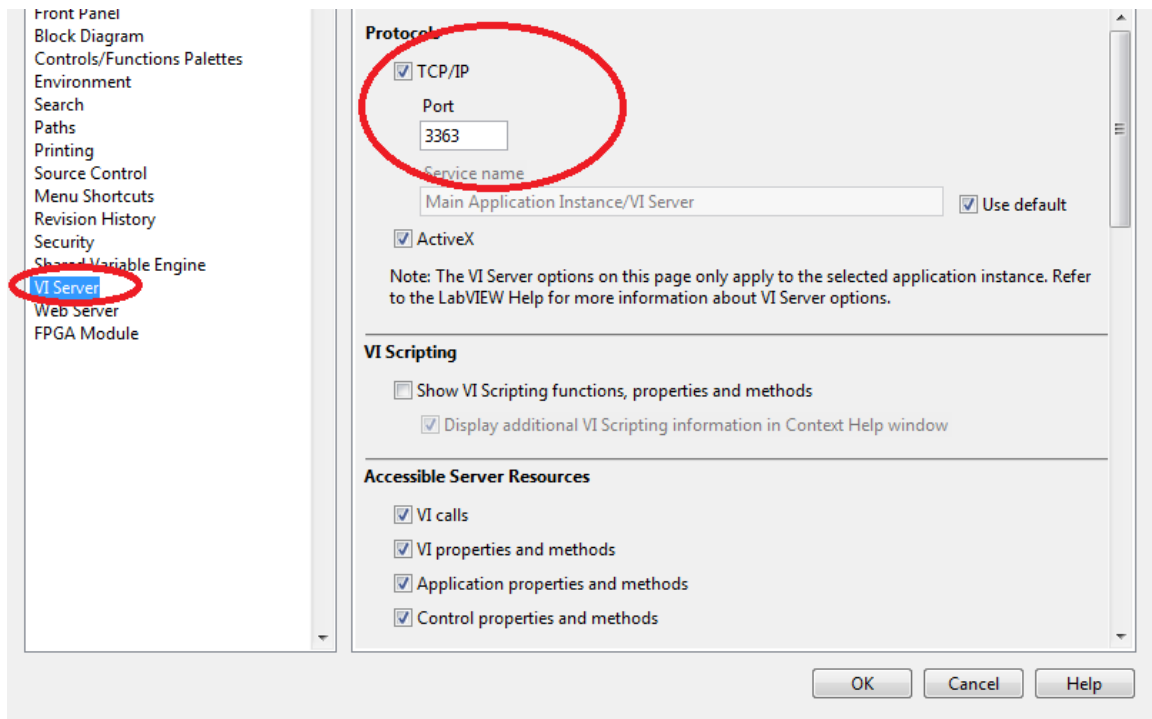

Figure A-2: Configuring VI Server
- 2) Under “Categories” on the left-hand side, select ‘VI server’. Make sure “TCP/IP” box is checked (Figure A-2)